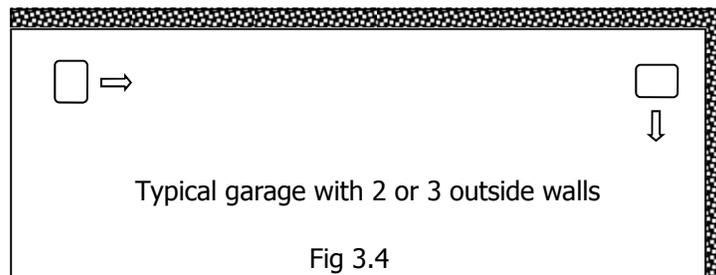

Fig 3.4
4. Smaller rooms will be comfortably heated with one unit. Larger rooms may require multiple heaters. Moves the air in a circular, wall wiping pattern around the room. This configuration aids in pre-heating the incoming air of the next heater and will raise the room temperature faster. See Fig 3.4 and 3.5